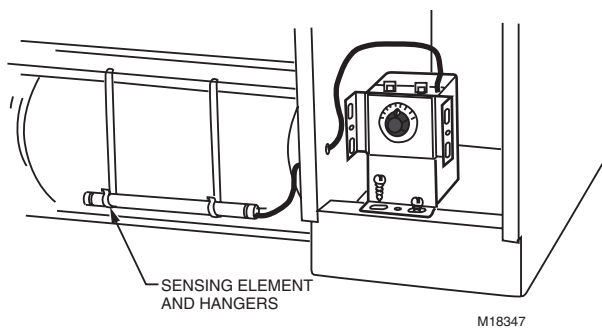

**Fig. 5. Terminal unit top view with the thermostat mounted in the preferred position.**
2. Mount the thermostat. See Fig. 5 or 6.